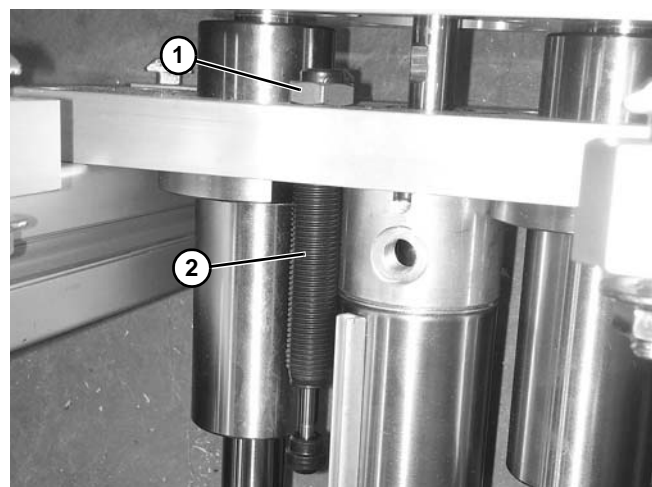

**Figure 58**
1. Loosen nuts (**Figure 58, item 1**) with an open-end wrench.
2. Adjust counter-clockwise stroke by rotating screw (**Figure 58, item 2**) left or right with an open-end wrench. Adjust clockwise movement by rotating screw (**Figure 58, item 3**) left or right with an open-end wrench. Tighten nuts.